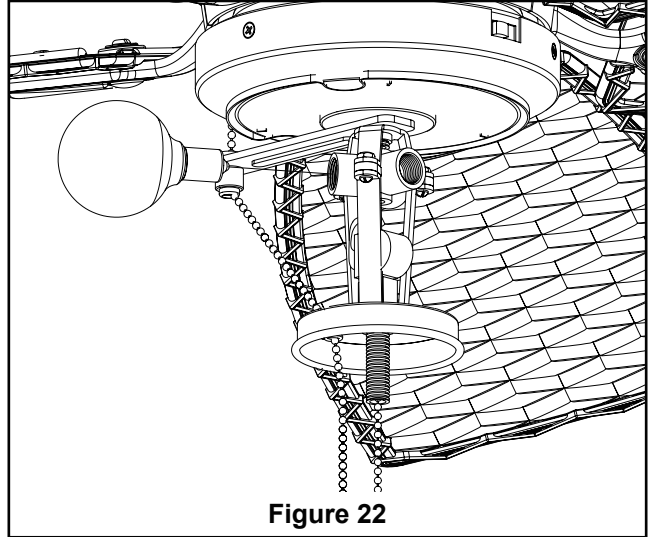

Figure 22
1. Install included bulbs into each of the three sockets. (Figure 22)